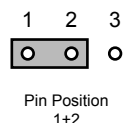

Figure 4 J7 — Default Position
- › **Pin 1** (left) + **Pin 2** (center) position — In this position, the reference is terminated with a 75ohm resistor. This configuration is to be used for point-to-point cabling, or on the last card of a daisy chain topology. This is the default position. Refer to **Figure 4** for pin positions.